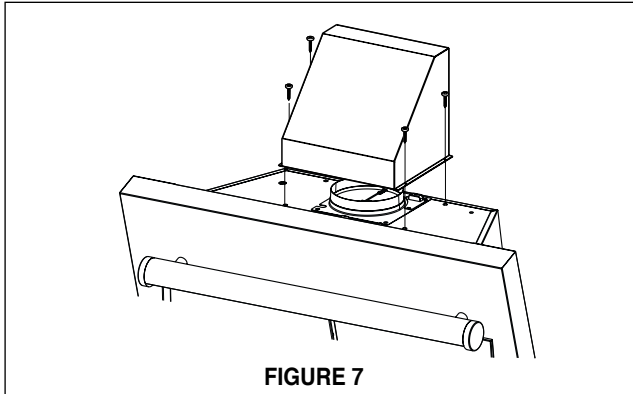

FIGURE 7
1. For rear ducted installations, attach the rear chimney transition to the top of the rangehood (**FIGURE 7**) with the 4 screws provided.
2. Attach the grille cover (H in **FIGURE 7**) using the cover screws (I in **FIGURE 8**).